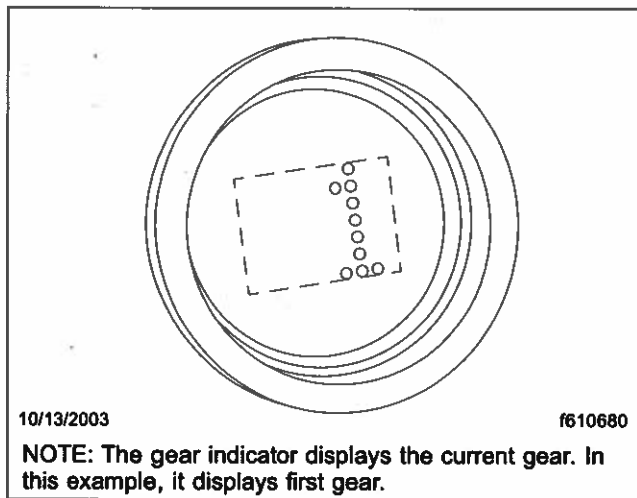

Fig. 8.9, Current Gear Display
In either mode, the gear indicator displays the current gear. See Fig. 8.9.
Drive (D) is directly below N on the four-position selector switch located at the end of the SmartShift control lever. To select D, press in the neutral lock button and move the selector switch to the position below N. When drive is selected, the number of the currently selected forward gear (1, 2, 3, 4, 5, or 6) displays on the gear indicator. See Fig. 8.9.